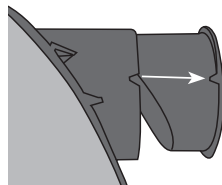
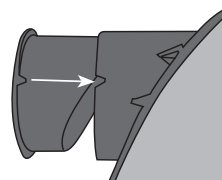

figure 6
figure 7
5. Remove the cap on the right air intake (**figure 6**) and put it on the left air intake. Making sure that the tabs are aligned with the notches, push the cap in completely (**figure 7**).